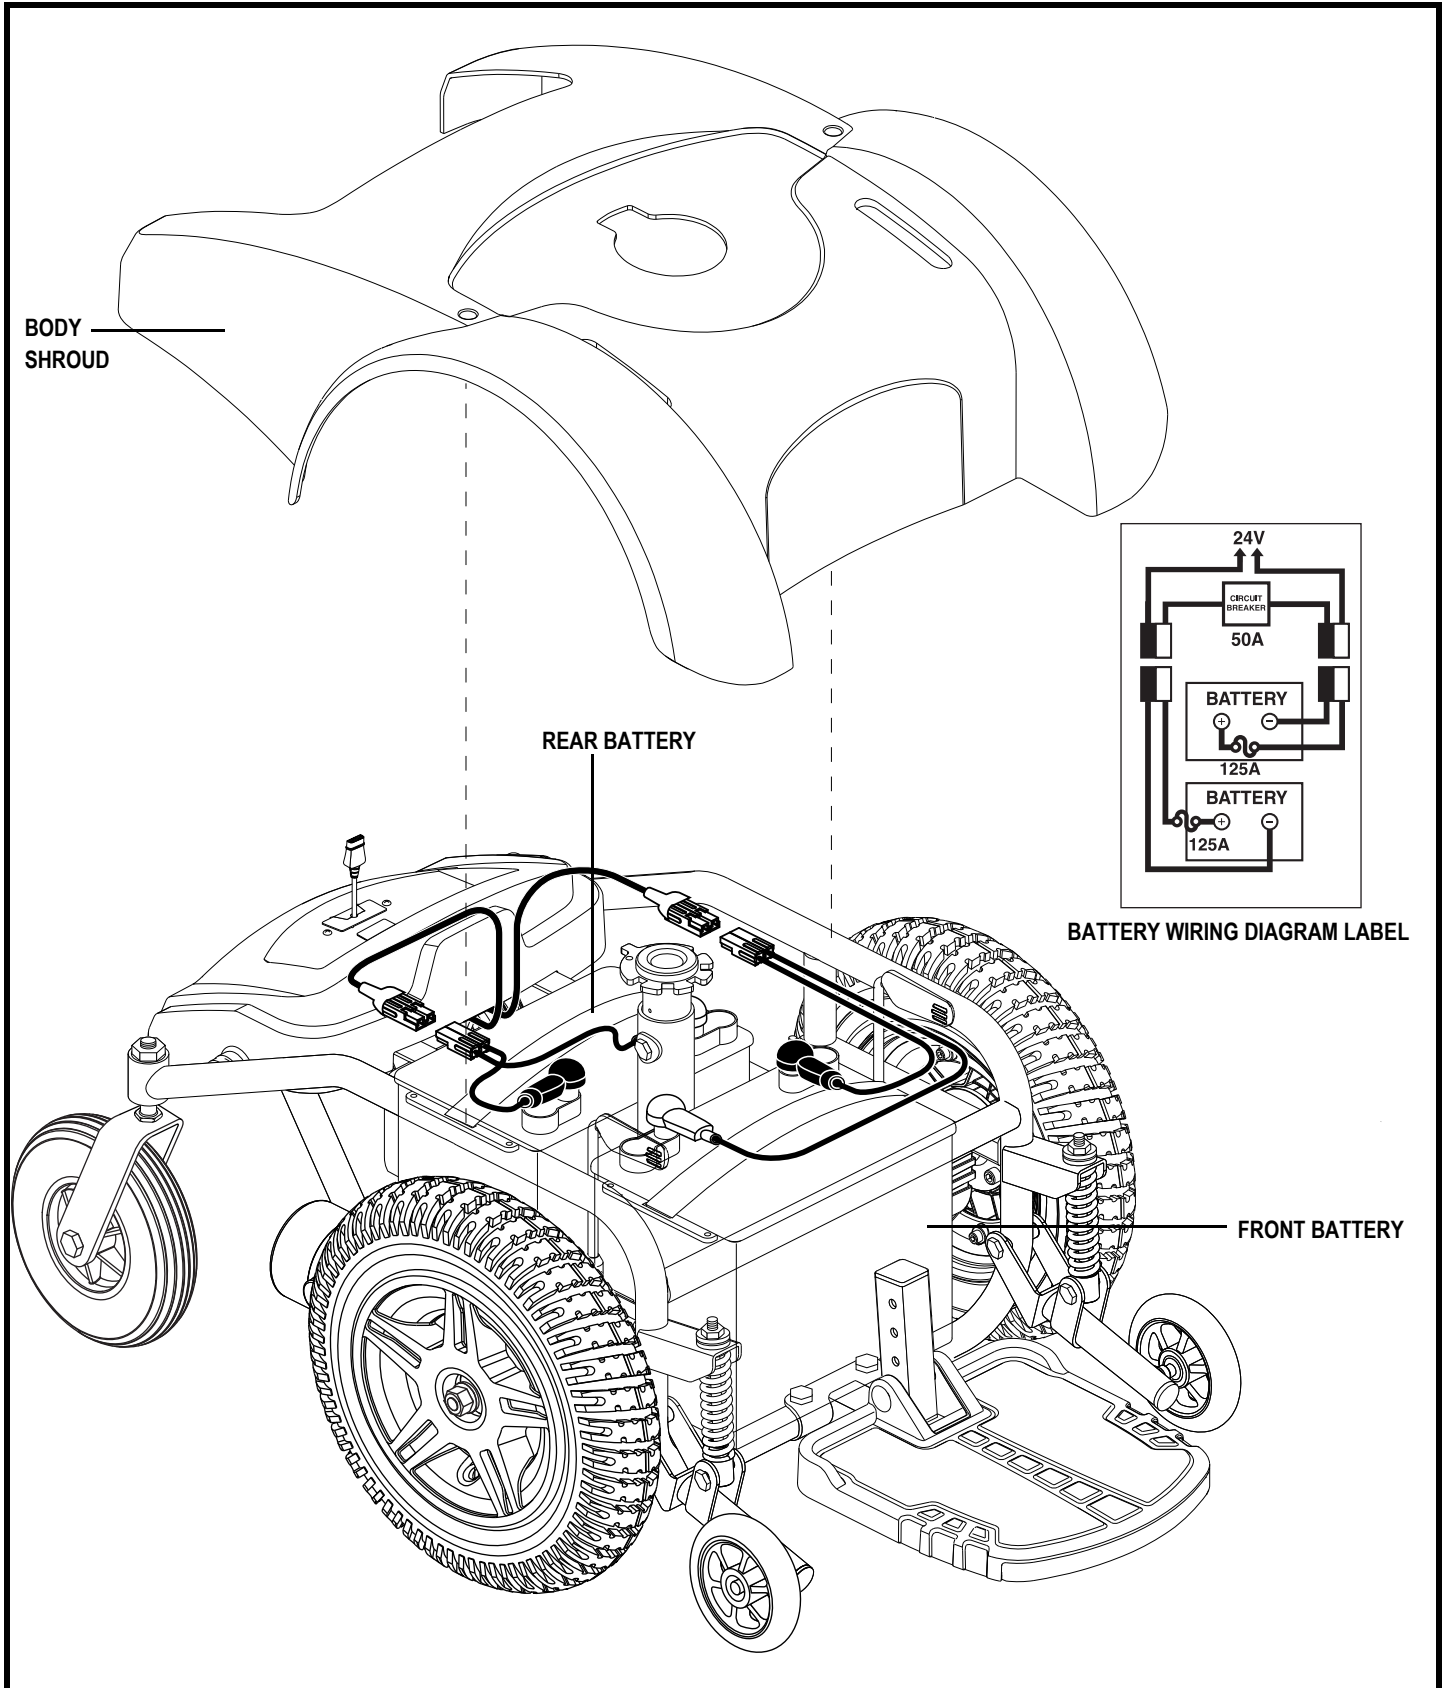

Figure 22. Battery Installation
13. Connect the battery quick disconnects according to the battery wiring diagram. See figure 22. (Connect the matching colors from the battery cable quick disconnect to the battery cable harness.)